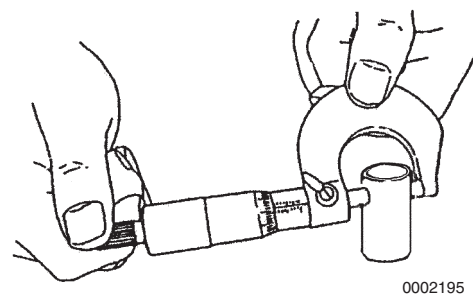

Figure 6-73
2. Measure the outside diameter of the tappet stem (Figure 6-73, (1)). Record the measurements. See Tappet on page 6-13 for the service limit.